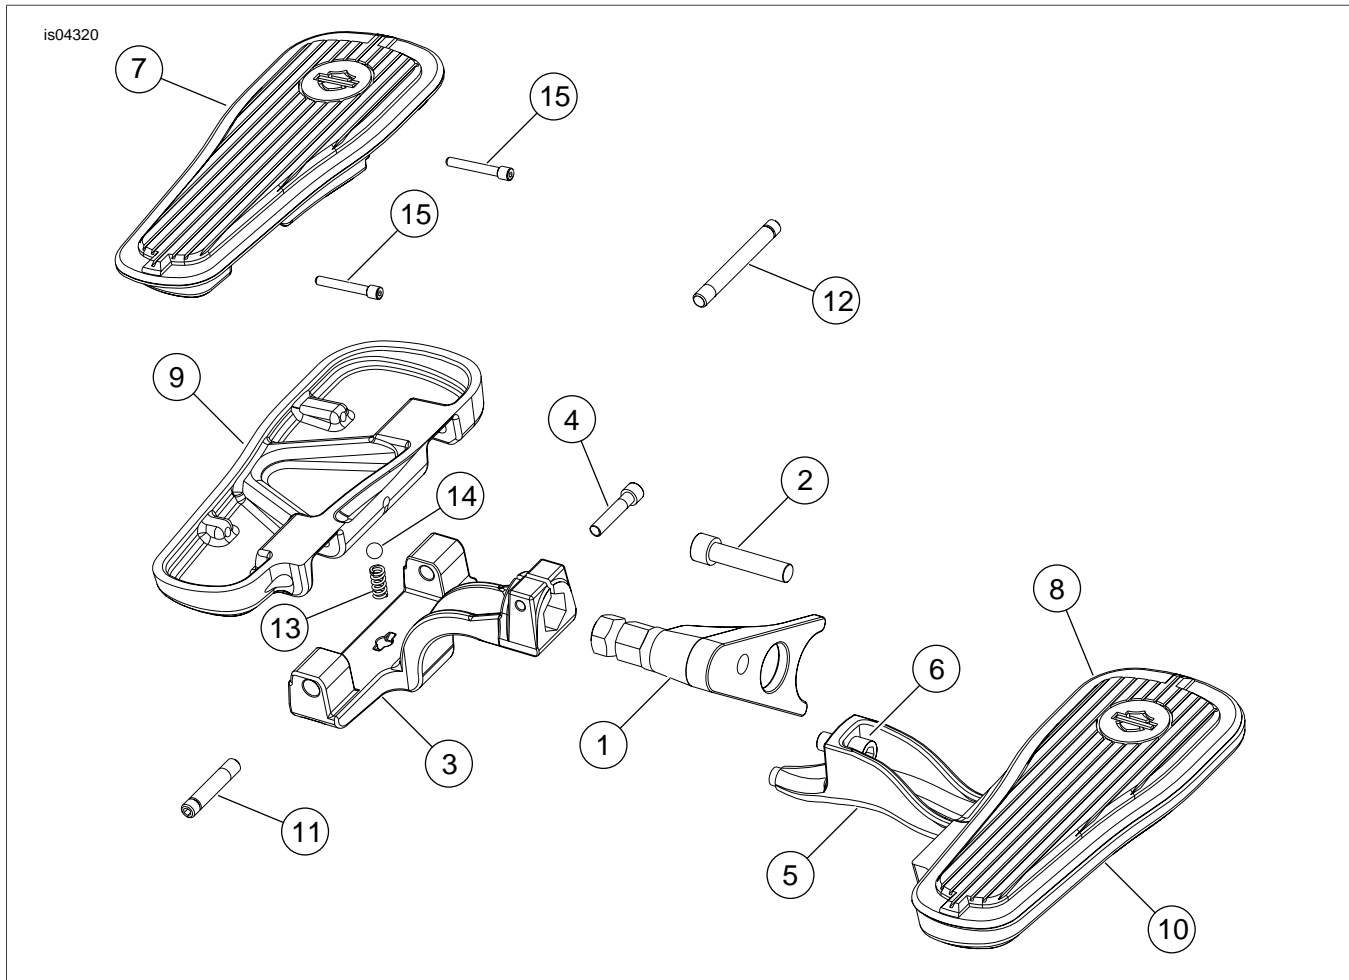

Figure 2. Service Parts: Crested Bar and Shield Passenger Footboard and Mount Kit
See Figure 2 and Table 1.
1. See Figure 2. Position left footboard mount (1) and insert screw (2) through mount and into footpeg mounting hole.
2. Position semi-circular cutout in mount extending from side of mount around nut of swingarm pivot bolt. Tighten screw (2) to 35-45 ft-lbs (47-61 Nm).
3. Position left footboard bracket (3) on mounting stud so that bolt hole aligns with machined groove in stud.
4. Insert screw (4) through left side in split hub of footboard bracket. Thread into tapped hole (right side) of split hub. Tighten to 10 ft-lbs (13.6 Nm).
1. See Figure 2. Position right footboard bracket (5) onto muffler support bracket.
2. Secure footboard bracket with screw (6). Tighten to 35-45 ft-lbs (47-61 Nm).
1. See Figure 2. Place footboard pad (7, 8) on footboard bottom (9, 10) and thread the pivot pins (11, 12).
3. Place spring (13) into retaining hole in footboard bracket (3, 5). Rest Delrin® ball (14) on top of spring.
7. Insert mounting pins (15) in footboard bottom (9, 10) into corresponding holes in footboard pad (7, 8).